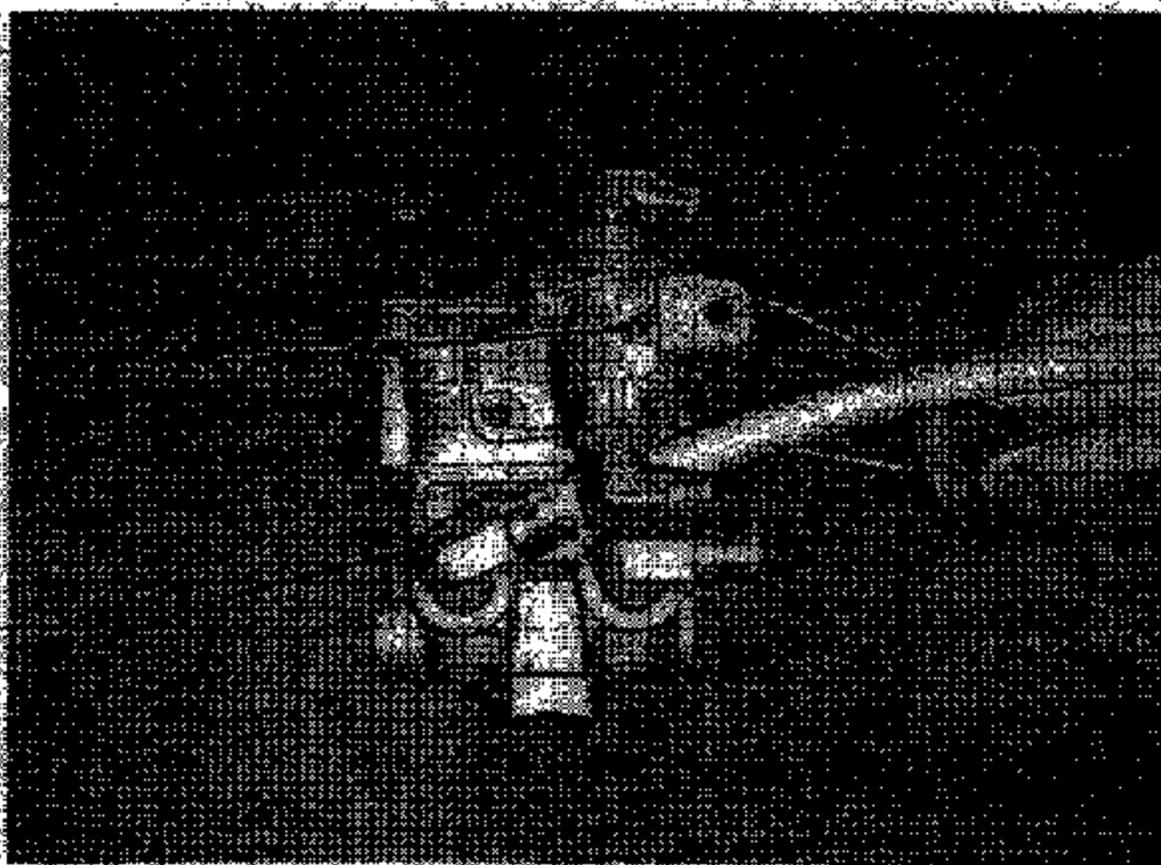

Figure 1
1. Disconnect the rearmost primary delivery air line from the 90 degree elbow at the relay valve (see Figure 1, page 3).
- 2.1. If the double check valve is located in the forward port of the relay valve proceed according to the following steps (see Figure 1, page 3).
- 2.1.2. Apply pipe sealant to the new short 90-degree elbow and tighten the elbow to the position shown in Figure 1, page 3. Be sure the elbow is positioned 30 degrees above horizontal and skip to step 3.